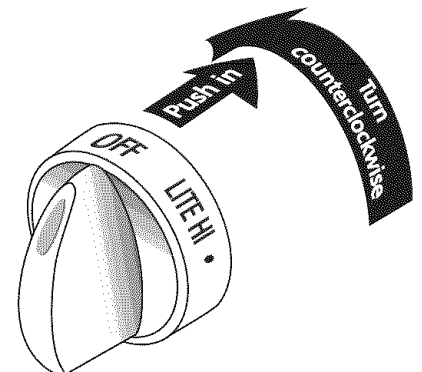

Fig. 2
2. Push the **Rear +Bridge** surface control knob in and turn **counterclockwise** out of the OFF position (See Fig. 2).